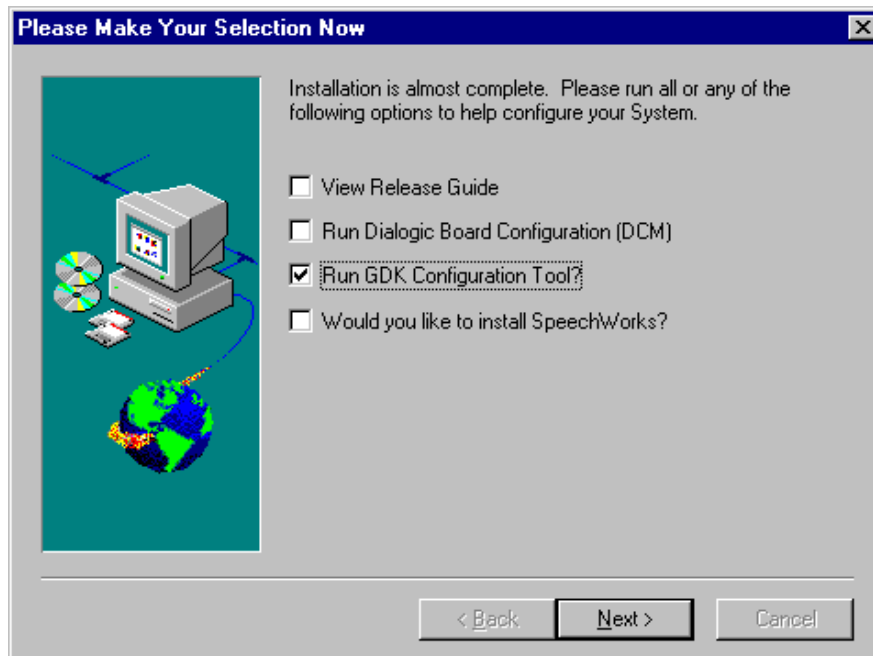

Figure 21. Please Make Your Selection Now Dialog Box
- At the end of the installation procedure, click the **Run GDK Configuration Tool** checkbox (Figure 21).